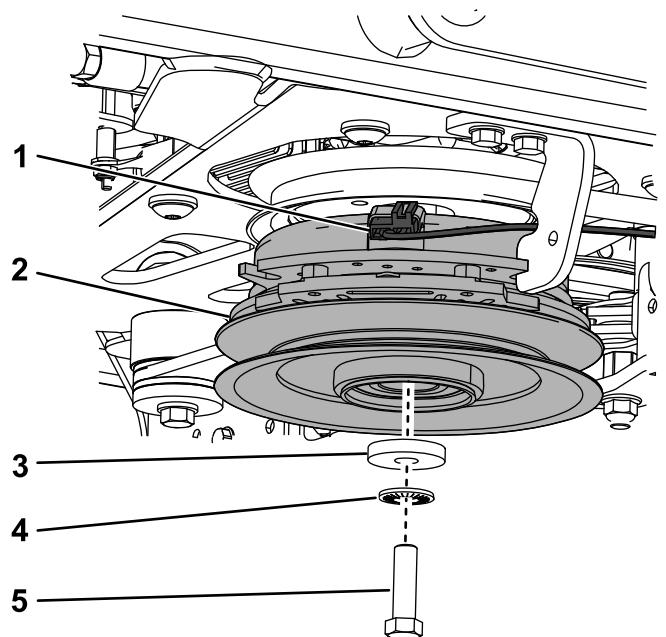

**Figure 86**
5. Remove the 2 bolts, 2 nuts, and washer connecting the mower-deck hangers to the lift plates for both sides of the mower deck (Figure 85 and Figure 86).
**Note:** Mount the front hanger brackets on the outside of the front lift arms for 52-inch decks (Figure 85). Mount the front hanger brackets on the inside of the front lift arms for 60-inch decks (Figure 86).